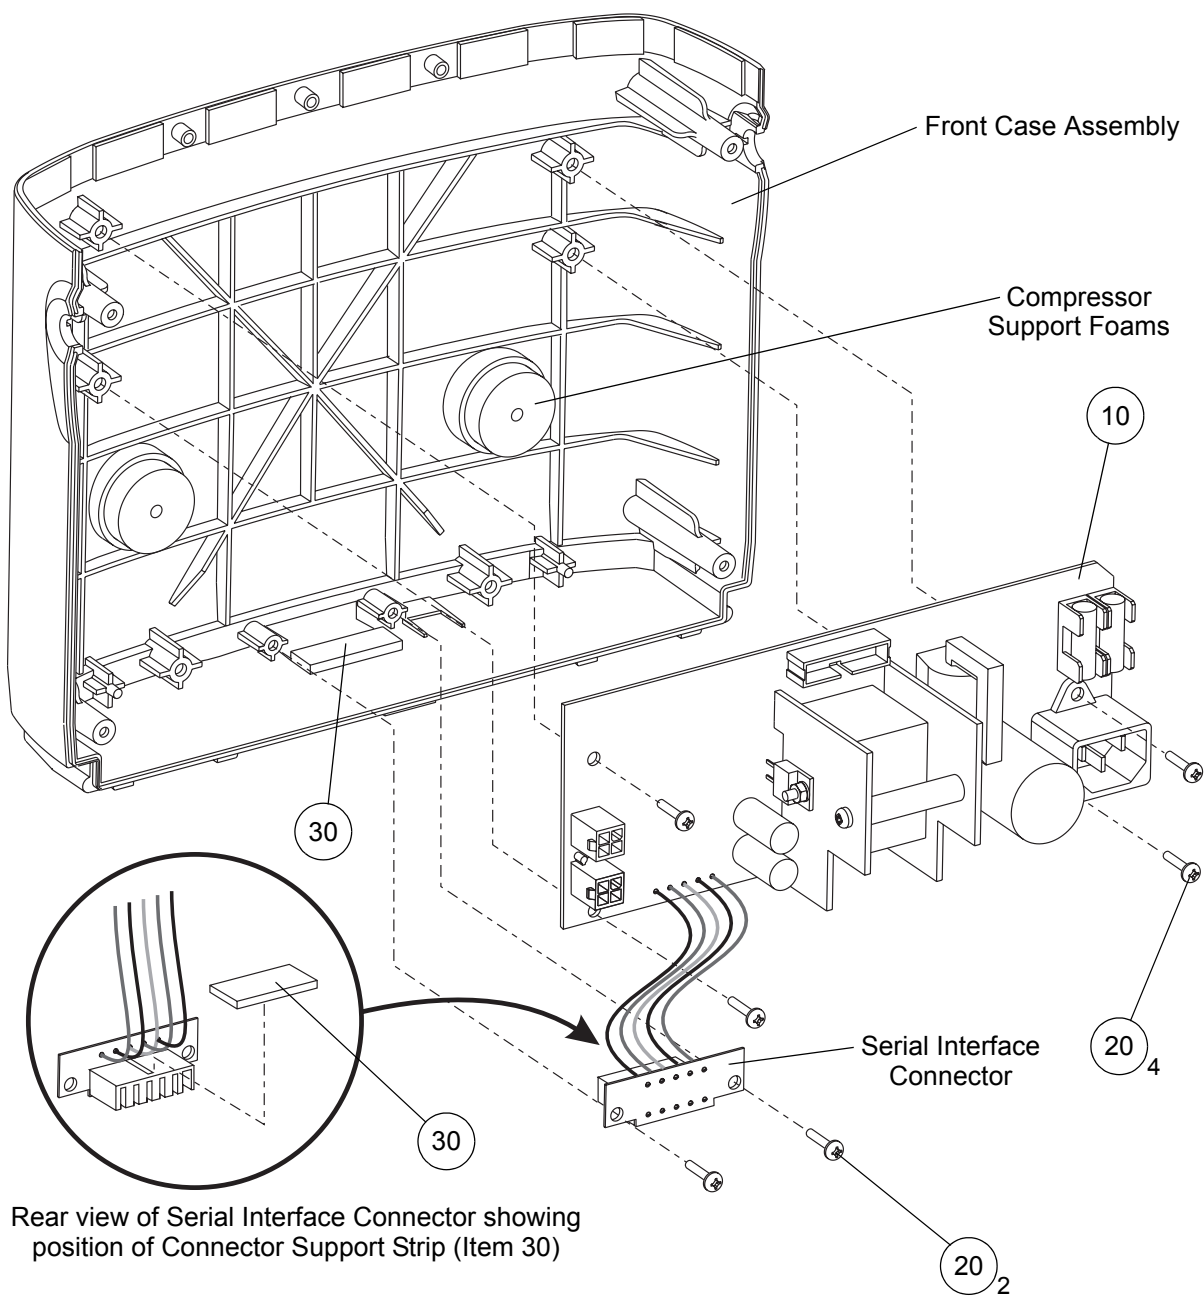

Figure 30 - Replacing the Power Supply PCB Assembly
- Note:** Make sure the wires from the power supply PCB assembly to the serial interface connector do not lie on top of the circular compressor support foams (refer to Figure 30).
- 24.3 Remove the two pozi screws (Fig 30, Item 20) and the serial interface connector from the front case assembly.
- 24.4 Remove the four pozi screws (Fig 30, Item 20) and the power supply PCB assembly (Fig 30, Item 10) from the front case assembly.
- 25.1 Put the power supply PCB assembly (Fig 30, Item 10) into the front case assembly, and install the four pozi screws (Fig 30, Item 20) to secure it.
- 25.2 If a new power supply PCB assembly is being installed, stick a new connector sealing strip (Fig 30, Item 30) to the back of the serial interface connector. If the original power supply PCB assembly is being re-installed, make sure the connector sealing strip is still stuck to the back of the serial interface connector (refer to Figure 30).
- 25.4 Insert the serial interface connector into the slot in the front case, and install the two pozi screws (Fig 30, Item 20) to secure it.
Note: *Make sure the wires from the power supply PCB assembly to the serial interface connector do not lie on top of the circular compressor support foams (refer to Figure 30).*